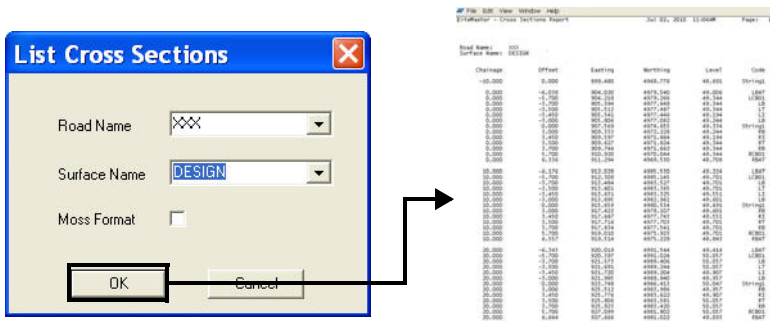

Figure 13-86. Cross Section Report
- Click **Design** ► **Cross Sections** ► **Cross Section Report**. The *List Cross Sections* dialog box appears (Figure 13-86).
- Click **OK** to generate the **Cross Sections Report** (Figure 13-86).